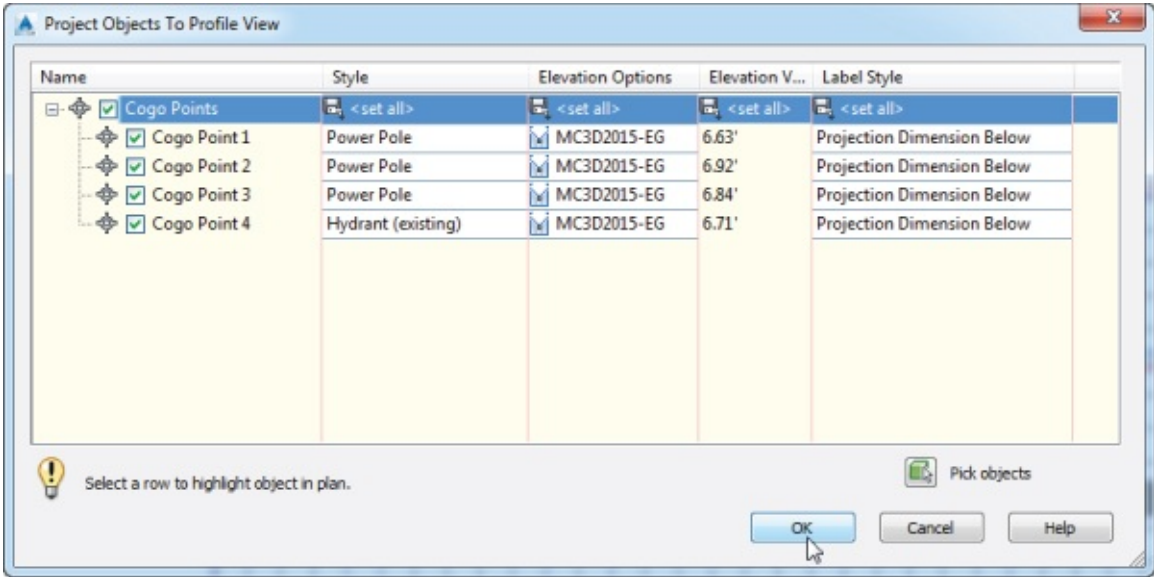

Figure 7.74 A completed Project Objects To Profile View dialog
5. Verify that Style is set to Power Pole for the power poles object and to Hydrant (existing) for the hydrant object, Elevation Options is set to Surface > MC3D2015-EG, and Label Style is set to Projection Dimension Below, as shown in Figure 7.74.